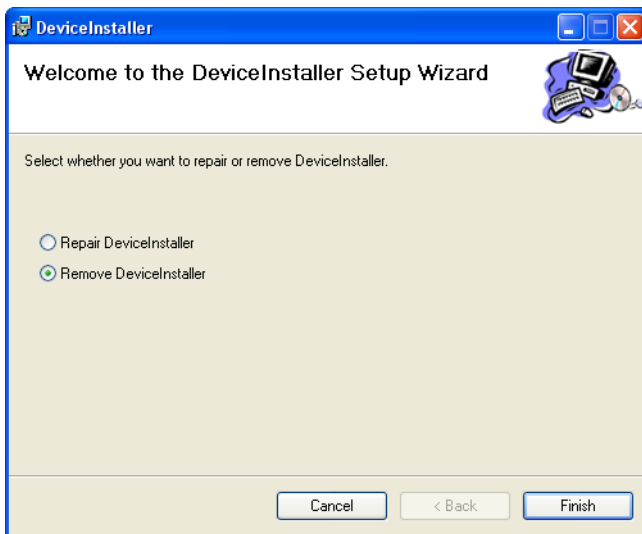

Figure 13: Alternate DeviceInstaller Setup Wizard Welcome Window
4. If a DeviceInstaller is already installed on the system, a different window will appear allowing the repair or removal of the installed software (see Figure 13).